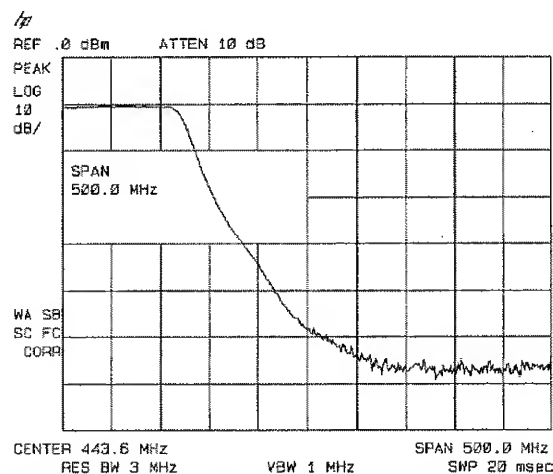

Figure 4-6. Spectrum Analyzer Settings According to the Measurement Requirement
5. Since we are only interested in the rejection of the low-pass filter, tune the spectrum analyzer's center frequency so that the roll-off of the filter comprises the majority of the trace on the display (see Figure 4-6).